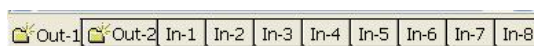

figure 3-48
- 1、select output ,for example figure3-48